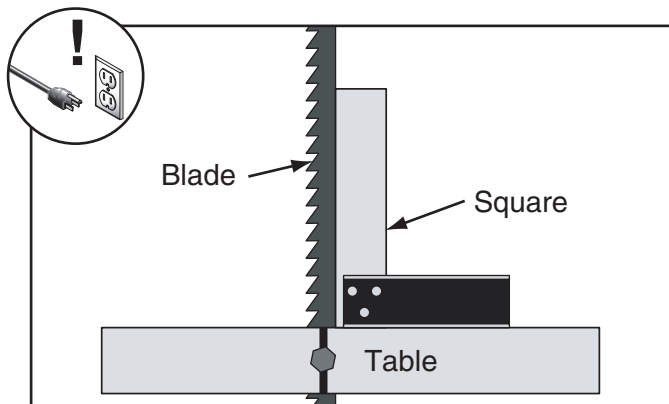

Figure 57. Squaring back of blade and table.
2. Place a square on the table and against the back of the blade, as shown in **Figure 57**. The table should be perpendicular to the back of the blade.